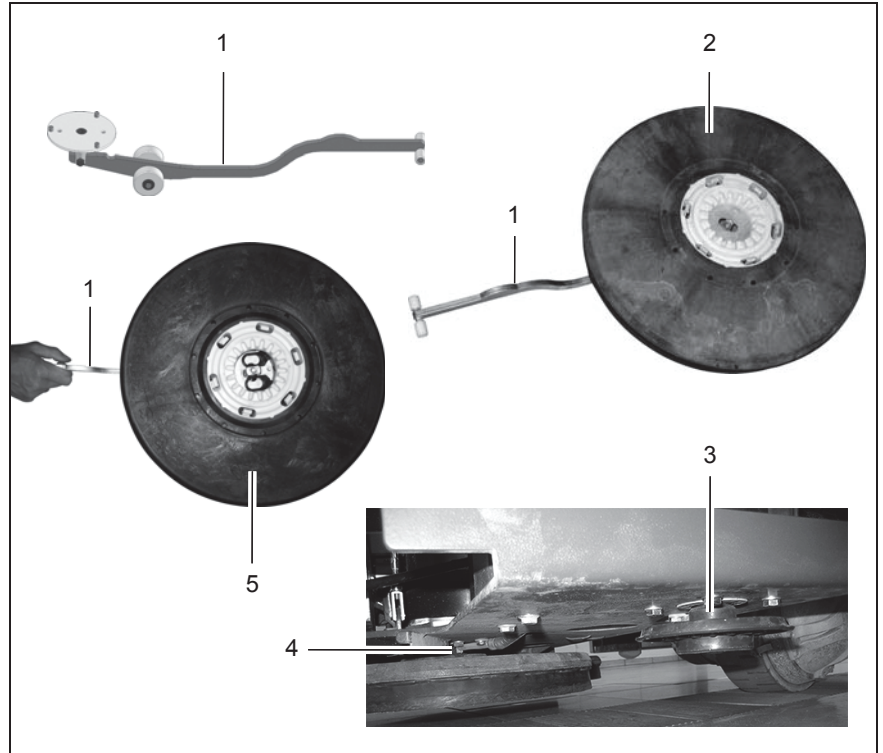
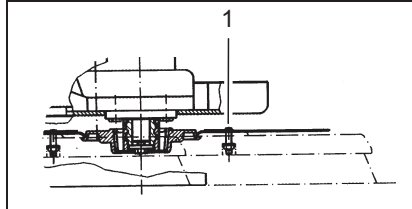

Fig. 7
Fig. 8
3. Position the middle brush (Fig. 7/2) or middle pad (Fig. 7/5) as illustrated in Fig. 7 on the assembly tool (Fig. 7/1).
4. Take hold of the assembly tool (Fig. 7/1) at the narrow end and slide the brush (Fig. 7/2) or pad (Fig. 7/5) under the middle brush catch (Fig. 7/4).
5. Force the narrow end of the assembly tool (Fig. 7/1) downwards. As a result of the levering effect, the brush (Fig. 7/2) or pad (Fig. 7/5) is pressed into the brush catch and audibly latches in place.
2. Slide the brush (Fig. 7/2) or pad (Fig. 7/5) under the brush head in accordance with Fig. 8.
3. Raise the brush (Fig. 7/2) or pad (Fig. 7/5) and turn it slightly until the toothing meshes.
4. Pull the brush (Fig. 7/2) or pad
(Fig. 7/5) up until all six hooks latch in the catches.
2. Pull the brush (Fig. 7/2) or pad (Fig. 7/5) from the brush head. Or:
3. Slide the narrow side of the assembly tool between the brush/pad and brush head and press the wide end of the assembly tool downwards. As a result of the levering effect, the brushes / pads are released from the brush head (Fig. 7/3).